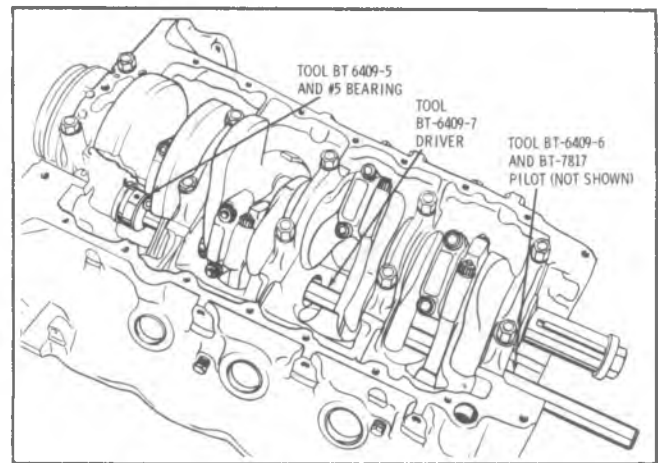

Fig. E-85—Installing Rear Cam Bearing
1. Place new No. 5 bearing on BT-6409-5 and drive bearing in until the last white line on the driver is flush with the front face of the pilot. (Fig. E-85)